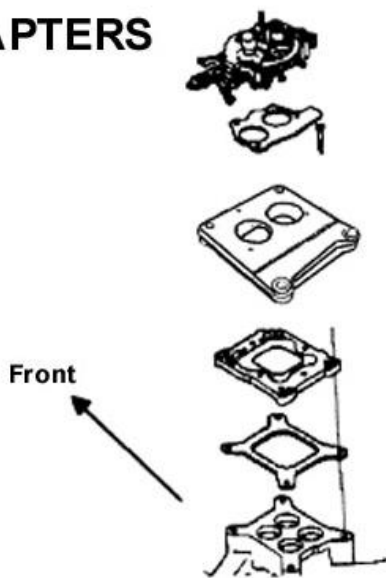

Figure 1A—Square Bore
8.1.1 Installing Throttle Body on Square Flange Manifolds (see Fig. 1A)